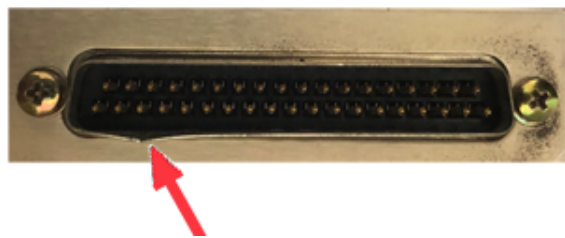

FIGURE 10. RA 60 AND HSP CONNECTORS
G. If the module cannot be inserted fully using this type of force, remove the power supply and reinspect both the power supply module rear panel and rack adapter intermediate plate for obstruction or damage. Figure 9 shows a module improperly inserted, and gives a hint as to where the trouble may be based on the gap between the RA 60 chassis and the HSP front panel. Figure 10 shows typical examples of good vs. damaged RA 60 and HSP connectors. Note that inserting an HSP module with a damaged connector can cause damage to the RA 60 connector. Once the RA 60 connector is damaged, previously undamaged HSP connectors will be damaged by subsequent insertion.